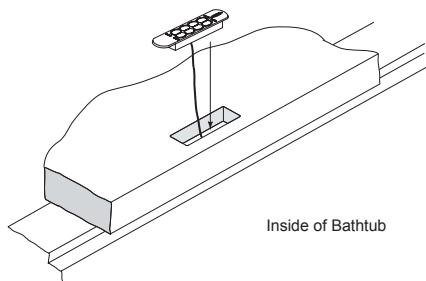

Figure 7 - Control Panel
- 5 Lower the control panel into the cutout and press firmly to embed the adhesive (Figure 7).